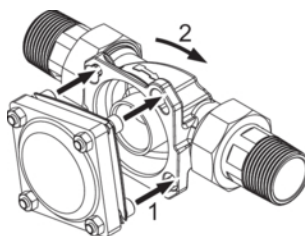
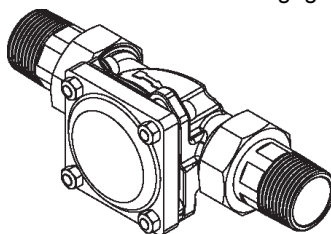

Fig. 3: Attach and engage appliance
Fig. 4: Connection of appliance engaged
- 1. Insert the heads of the four flange screws through the bayonet holes on the rotary flange fitting (see Figure 3).
2. Turn the device in clockwise direction up to the stop (see Figure 3 and Figure 4).